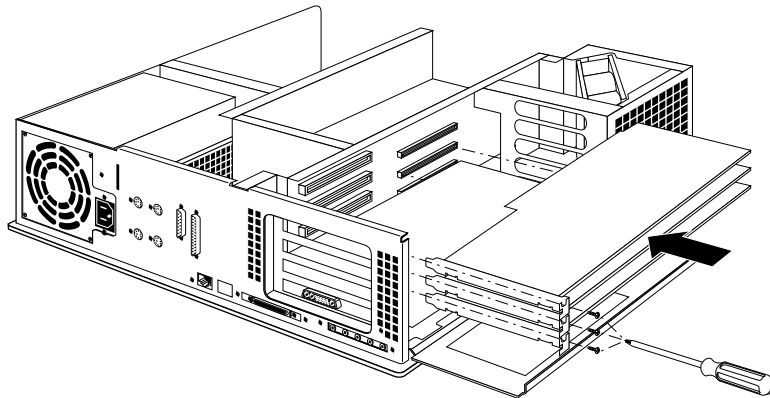

Figure 2-16 Replacing the Graphics Board Set
- Align the metal extensions on the left of the board set with the top three slots on the chassis. At the same time align the right edge of the board set with the metal grooves on the right of the chassis, as shown in Figure 2-16.